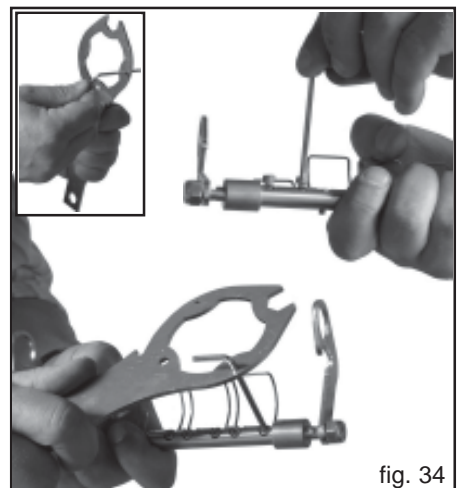

fig. 34
- 5) Use the supplied multi-purpose wrench and an Allen wrench (no. 3) to loosen the fastening screws of the spring elements as shown in Figure 34.